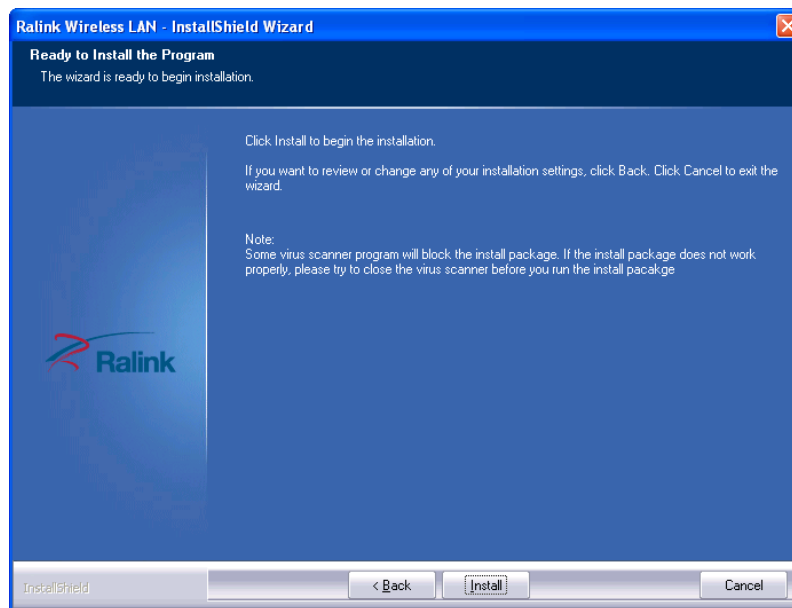

Figure 6-27: Ready to Install the Program
Step 9: The **Ready to Install the Program** screen in **Figure 6-27** appears.